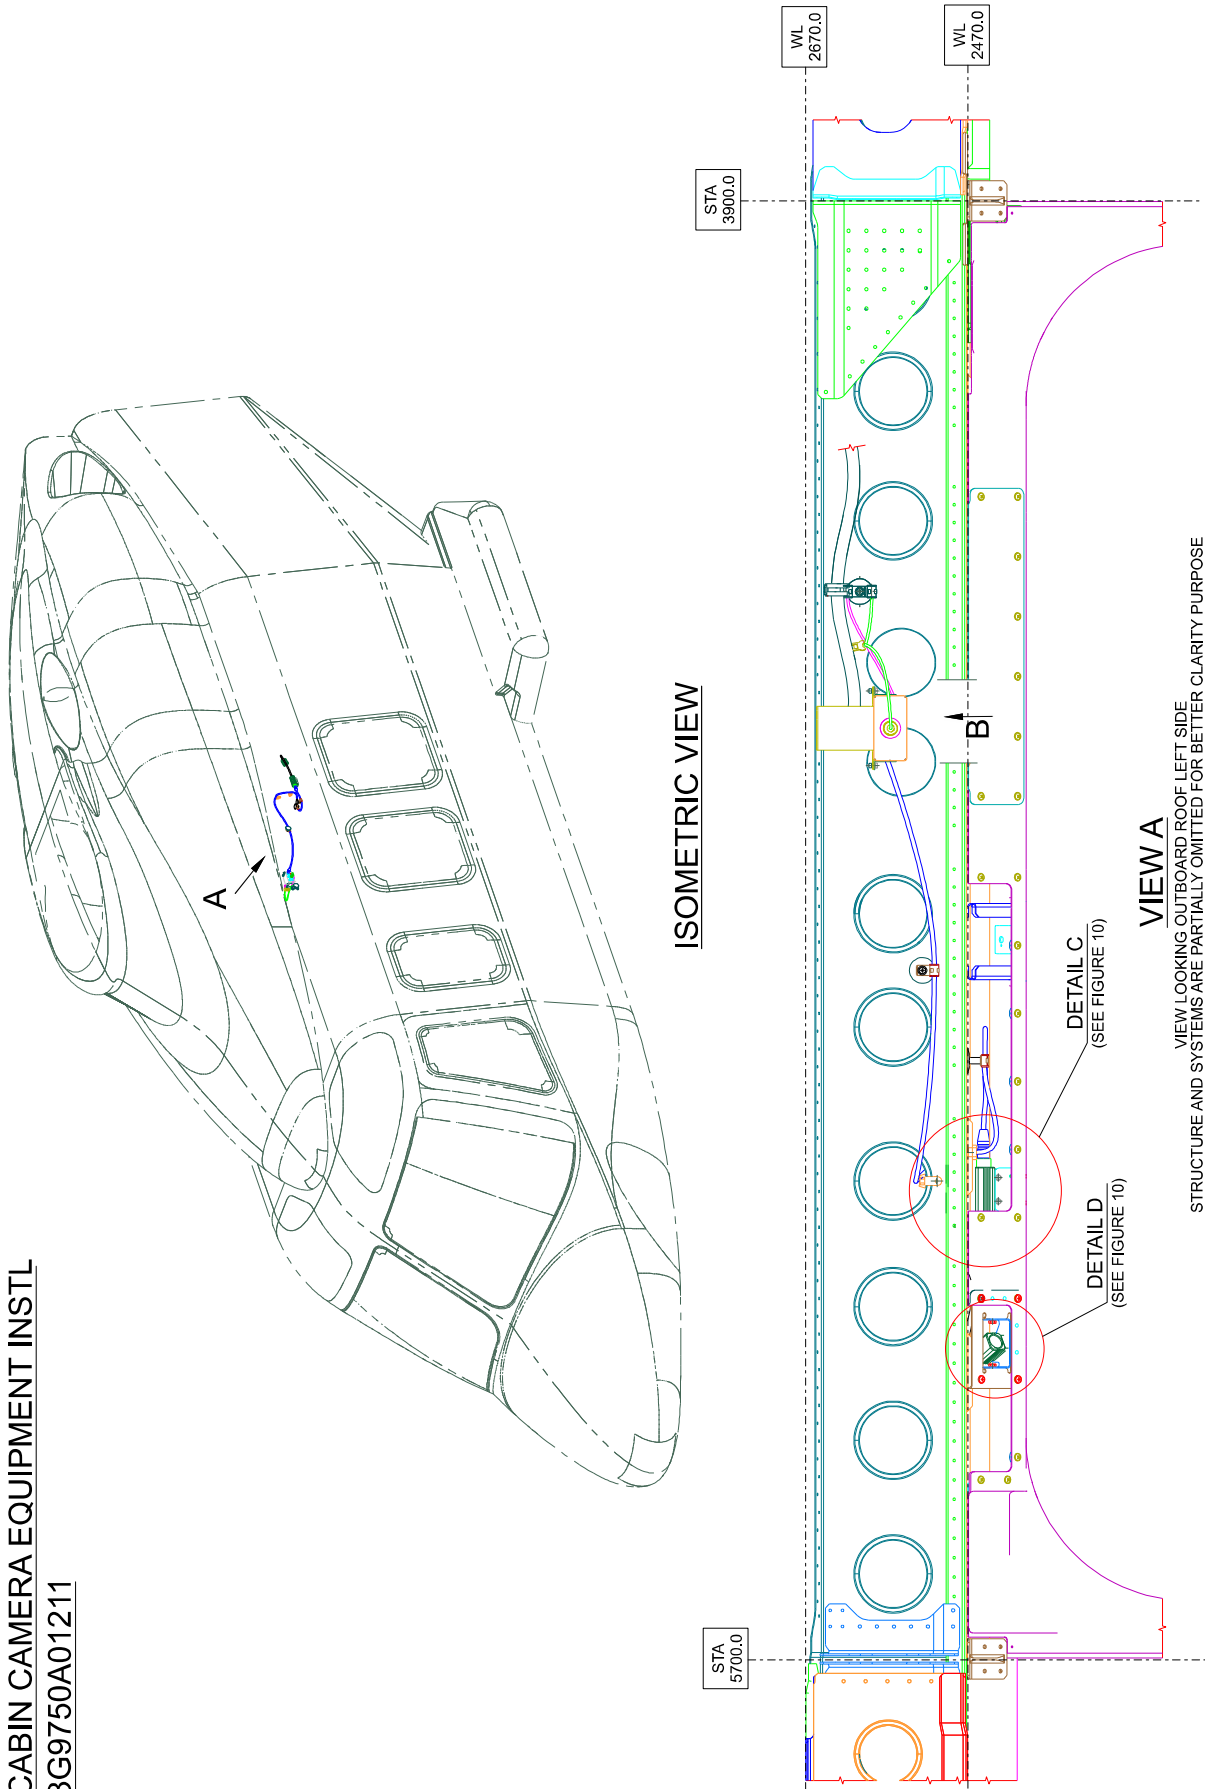

Figure 9
2. In accordance with DM 39-A-06-41-00-00A-010A-A and with reference to Figures 9 and 10, gain access to the area affected by the installation and perform the equipment installation P/N 3G9750A01211 as described in the following procedure:
- 2.1 With reference to Figure 9 View A and Figure 10 View B, install the spacer P/N A631A01B on the C/A B1A851.
- 2.2 With reference to Figure 9 View A and Figure 10 View B and in accordance with DM 39-A-97-56-05-00A-720A-K, install the power supply P/N RPS-77E on the power supply support assy P/N 3G5317A12931.